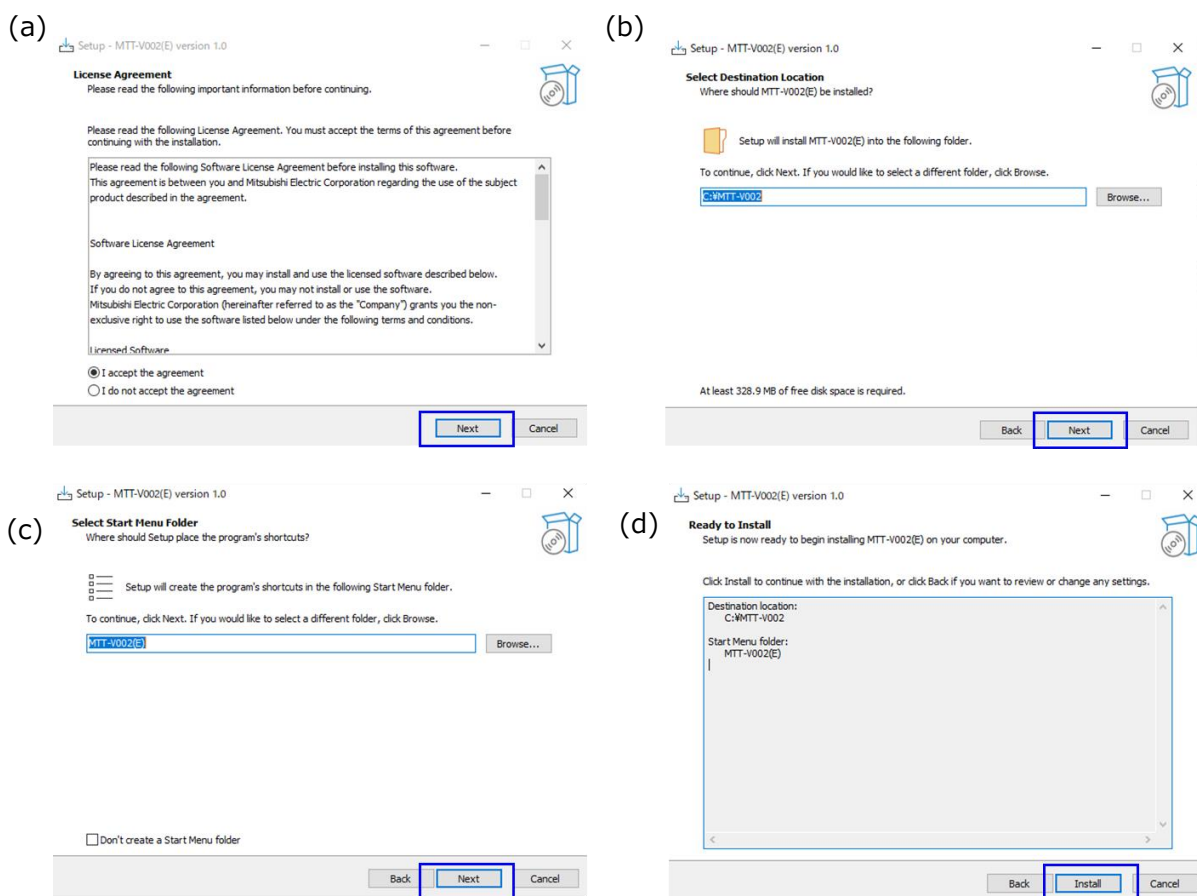

Fig. 2.1 Installation procedure for MTT-V002
- (1) Double-click MTT-V002.exe.
- (2) Click "Yes" when the user account control is displayed.
- (3) Confirm the contents of the license agreement, select "I agree" and click "Next" (Fig. 2.1(a)).
- (4) Select the installation directory and click "Next" (Fig. 2.1(b)).
- (5) Specify the Start Menu folder and click "Next" (Fig. 2.1(c)).
- (6) Click "Install" to execute the installation (Fig. 2.1(d)).